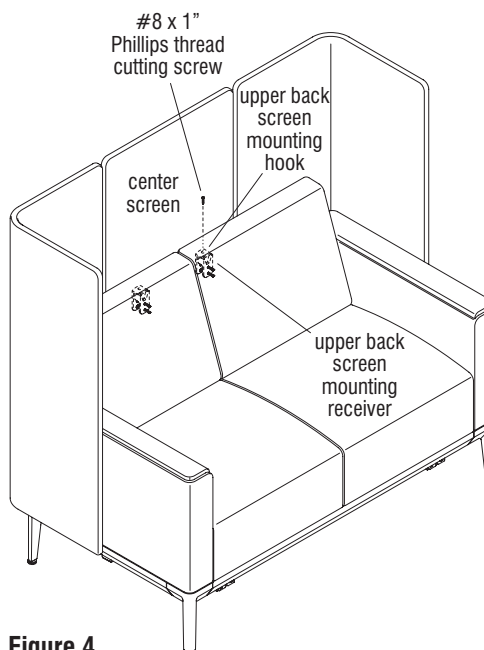

Figure 4
2. Loosely secure one upper back screen mounting hook, on the center screen, to the upper back screen mounting receiver using a #8 x 1" Phillips thread cutting screw. Do not tighten screw fully until instructed to at a later step. (Figure 4 & Detail F).